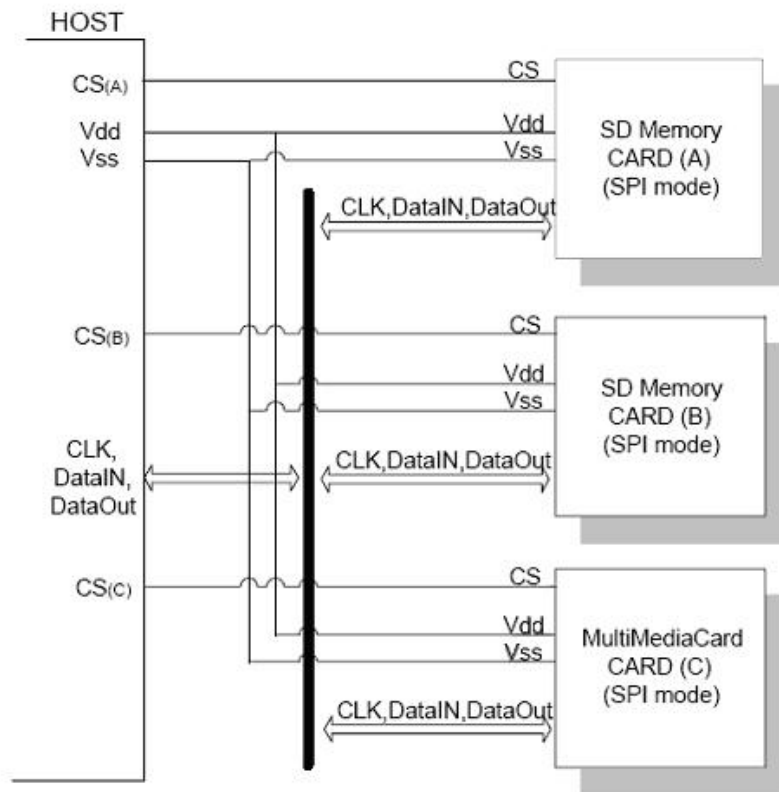

Figure 7-1: microSD Card system (SPI mode) bus topology
The card identification and addressing methods are replaced by a hardware Chip Select (CS) signal. There are no broadcast commands. For every command, a card (slave) is selected by asserting (active low) the CS signal (see Figure 7-1).